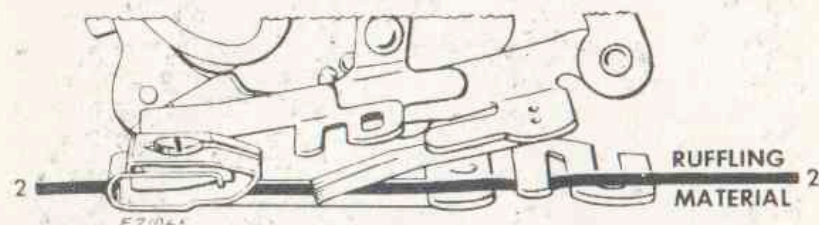

Fig. 56. Correct Position for Material to be Ruffled
3. Insert material to be ruffled between two blue blades and under separator guide (Line 2, Fig. 56).